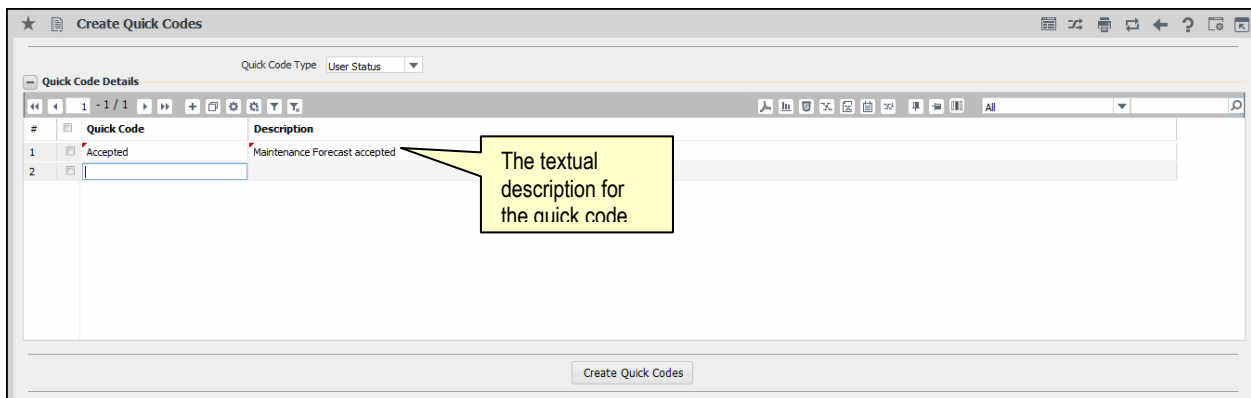

Figure 2.1 Creating quick codes for aircraft maintenance forecast
1. Select **Create Quick Codes** under the **Aircraft Maintenance Forecast** business component. The **Create Quick Codes** page appears. See *Figure 2.1*.